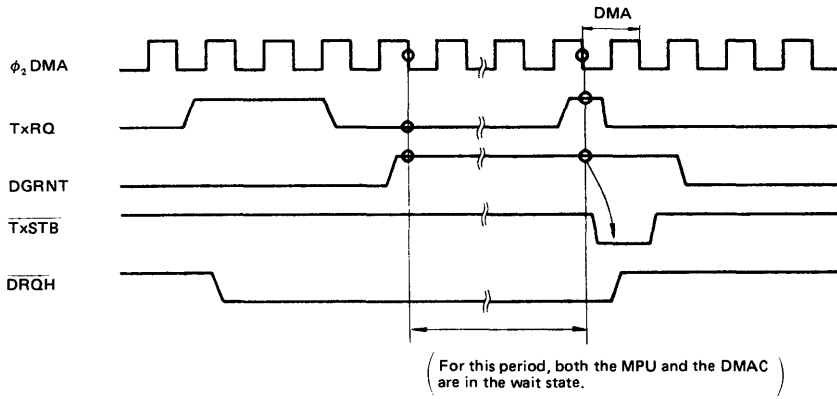

Figure 14 Extraordinary TxRQ Input (1)
- (1) In the case where TxRQ becomes "High", but it is reset to "Low" before DGRNT becomes "High". In this case, the DMAC is in the wait state without sending out  $\overline{TxSTB}$  until TxRQ rises to "High" again. As  $\overline{DRQH}$  remains "Low" the MPU is forced to be stopped, and the system is in dead lock state until TxRQ rises to "High" again (Fig. 14).